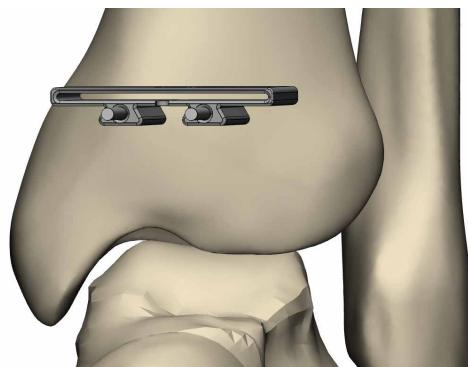

Fig. 4.4
**4.4.** If using the flat cut guide in conjunction with the Half Pill implant, place the flat cut guide at the desired proximal resection margin. Insert two 2.4mm guidewires through the holes in the flat cut guide. (fig. 4.4). Use the flat cut guide to direct saw blade for proximal resection.